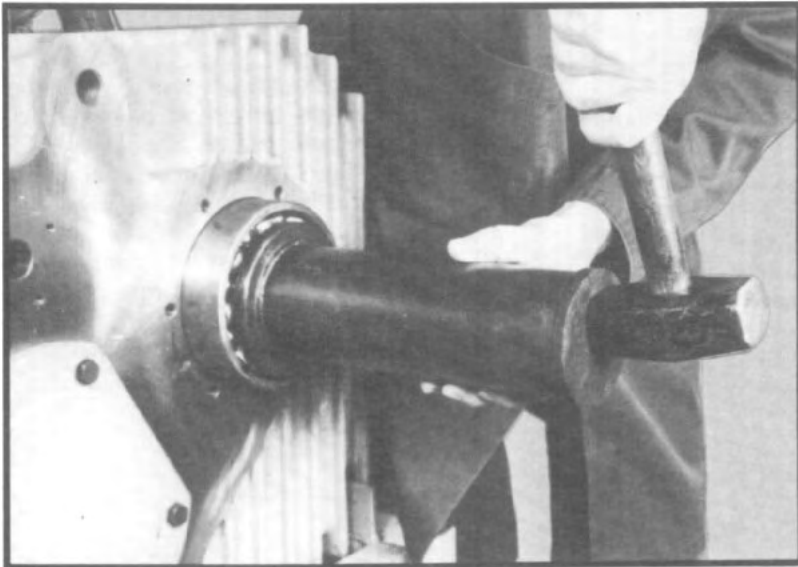

Fig. 116
2.7 Install lower shaft front ball bearing on front of shaft. Supporting the shaft assembly with a chain hoist, tap the ball bearing with a suitable driver to push the bearing into the housing. (Tap evenly on inner race.) Do not remove the chain hoist support until after Step 10. (See fig. 116.)